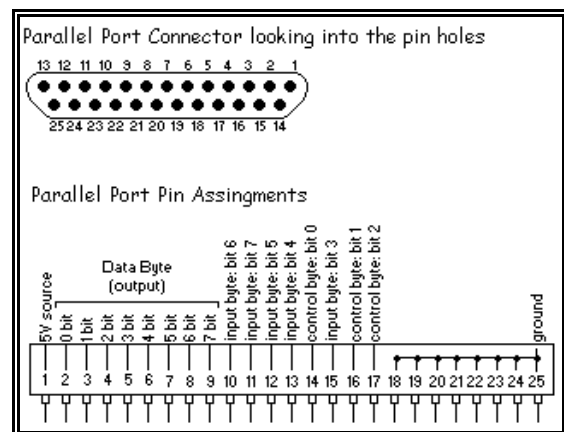

Figure 5
- 1) If you look at Figure 5, you will see that the input byte has pins for bits 3,4,5,6, and 7. Bits 0, 1, and 2 are the ones that are left out rather than bits 5, 6, and 7. This just changes our code a bit. Instead of comparing our SWITCHstatus variable to 2^{i-1} , we need to compare it to 2^{i+2} instead
To set the output pin (pin 19 in this case) on the left-hand memory latch, parallel port pin 14 is set to 5 volts and parallel port pin 16 is set to 0 volts (see Figure 5 for parallel port pin assignments). We do this by writing the number 1 decimal (001 binary) to the control byte of the parallel port. Now, pin 19 on the left-hand memory latch will adopt what ever voltage is coming from parallel port pin 3. Then, we write 0 decimal (000 binary) is written to the control byte. Pin 19 on the left-hand memory latch will maintain it current value and the left-hand LED will stay on or off as desired. The voltage on parallel port pin 3 is changed to the value we want for the output of the right-hand memory latch. Then, we write the number 10 decimal (010 binary) to the control byte of the parallel port and output pin 19 on the right-hand memory latch will adopt the voltage of parallel port pin 3, turning the LED on or off. We then write the number 0 decimal (000 binary) to the control byte and the two memory latches will keep their respective voltages and the LEDs will keep their current status until we want to change them.